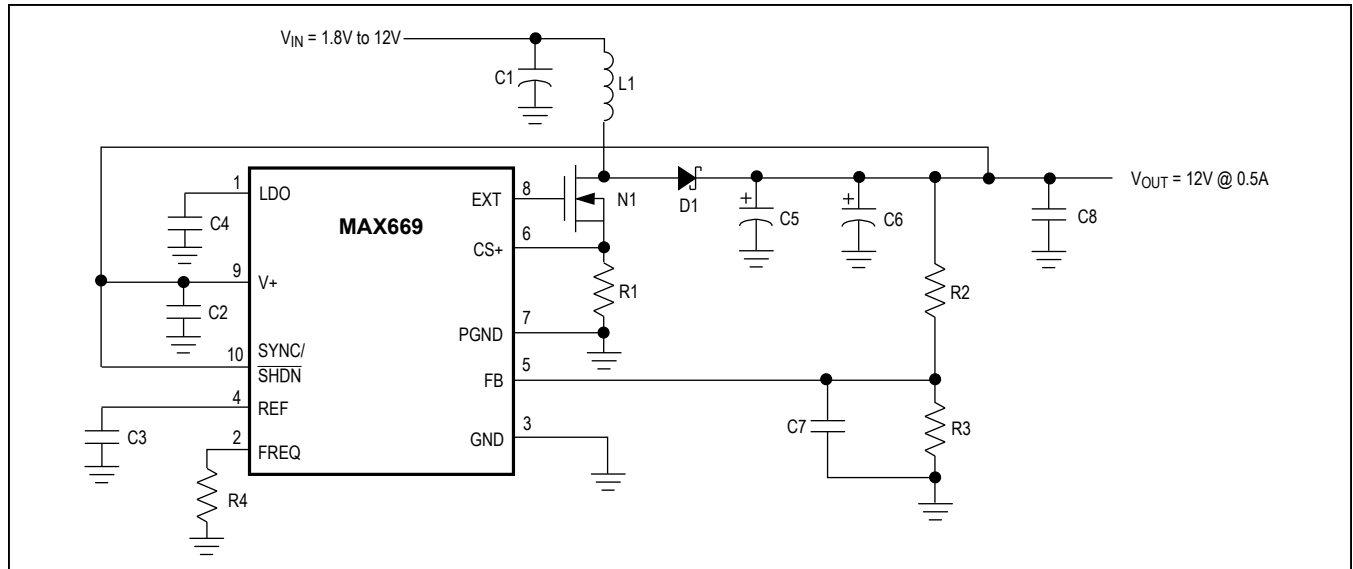
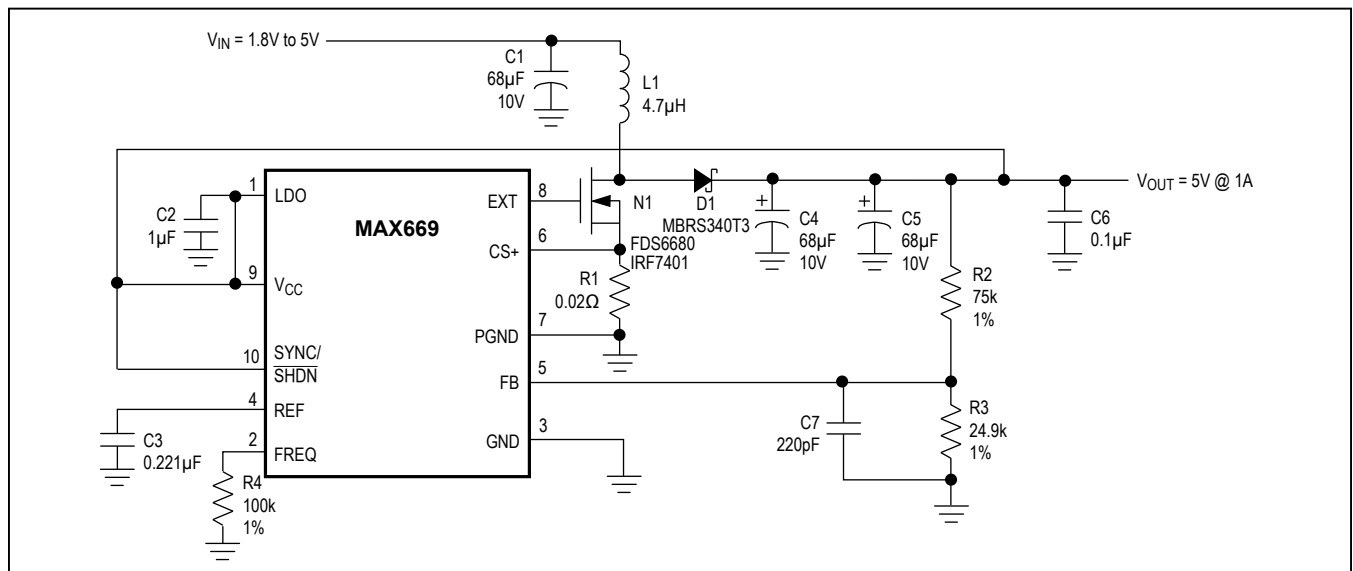
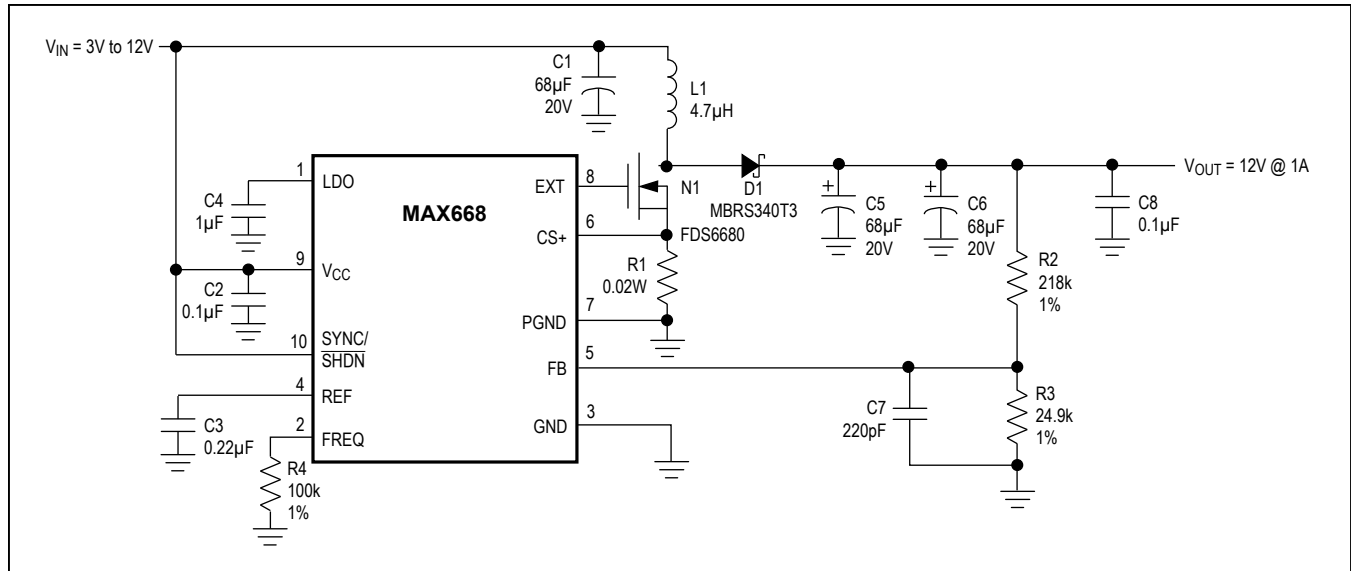
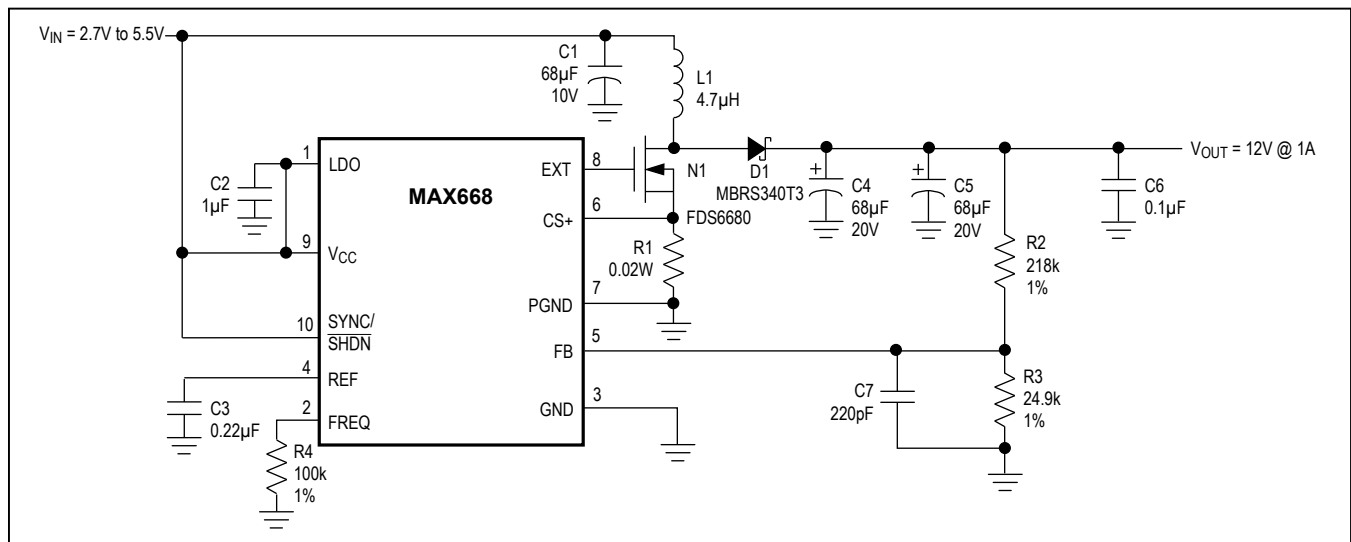

Figure 2. MAX669 High-Voltage Bootstrapped Configuration
Figure 3. MAX669 Low-Voltage Bootstrapped Configuration
Figure 4. MAX668 High-Voltage Non-Bootstrapped Configuration
Figure 5. MAX668 Low-Voltage Non-Bootstrapped Configuration
(Circuits of Figures 2, 3, 4, and 5; $T_A = +25^\circ\text{C}$; unless otherwise noted.)
V_{CC} and LDO allow a variety of biasing connections to optimize efficiency, circuit quiescent current, and full-load start-up behavior for different input and output voltage ranges. Connections are shown in Figure 2, Figure 3, Figure 4, and Figure 5. The characteristics of each are outlined in Table 1.
With V_{CC} connected to V_{OUT} , as in Figure 2, EXT voltage swing is 5V when V_{CC} is 5.2V or more, and $V_{CC} - 0.2V$ when V_{CC} is less than 5.2V. If the output voltage does not exceed 5.5V, the on-chip regulator can be disabled by connecting V_{CC} to LDO (Figure 3). This eliminates the LDO forward drop and supplies maximum gate drive to the external FET.
With non-bootstrapped operation, the IC is powered from the input voltage (V_{IN}) or another source, such as a logic supply. Non-bootstrapped operation (Figure 4) is recommended (but not required) for input voltages above 5V, since the EXT amplitude (limited to 5V by LDO) at this voltage range is no higher than it would be with bootstrapped operation. Note that non-bootstrapped operation is *required* if the output voltage exceeds 28V, since this level is too high to safely connect to V_{CC} . Also note that **only the MAX668 can be used with non-bootstrapped operation.**
If the input voltage does not exceed 5.5V, the on-chip regulator can be disabled by connecting V_{CC} to LDO (Figure 5). This eliminates the regulator forward drop and supplies the maximum gate drive to the external FET for lowest on-resistance. Disabling the regulator also reduces the non-bootstrapped minimum input voltage from 3V to 2.7V.
* For standard step-up DC-DC circuits (as in Figures 2, 3, 4, and 5), regulation cannot be maintained if V_{IN} exceeds V_{OUT} . SEPIC and transformer-based circuits do not have this limitation.
The output voltage is set by two external resistors (R_2 and R_3 , Figure 2, Figure 3, Figure 4, and Figure 5). First select a value for R_3 in the 10k Ω to 1M Ω range. R_2 is then given by:
where $R2$ and $R3$ are the feedback resistors (Figure 2, Figure 3, Figure 4, and Figure 5). If the calculated value for C_{FB} results in a non-standard capacitance value, values from 0.5 C_{FB} to 1.5 C_{FB} will also provide sufficient compensation.
In non-bootstrapped configurations (Figure 4, and Figure 5), the MAX668 can start up with any combination of output load and input voltage at which it can operate when already started. In other words, there are no special limitations to start up in non-bootstrapped circuits.
Figure 5 shows the MAX668 operating in a 5V to 12V boost application. This circuit provides output currents of greater than 1A at a typical efficiency of 92%. The MAX668 is operated in non-bootstrapped mode to minimize the input supply current. This achieves maximum light-load efficiency. If input voltages below 5V are used, the IC should be operated in bootstrapped mode to achieve best low-voltage performance.